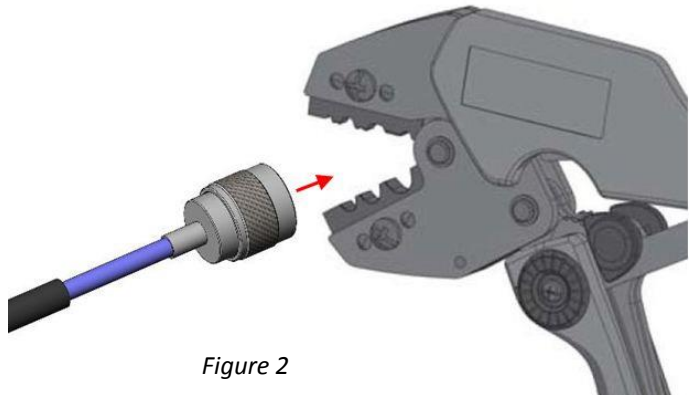

Figure 2
3. Place RF assembly, with ferrule still in proper position, into the tool jaws (Figure 2). Be sure to correctly align the ferrule within the desired crimp profile.